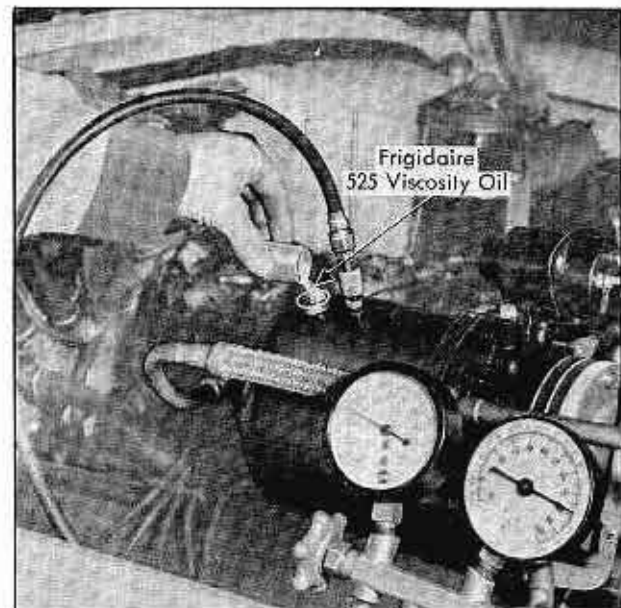

Fig. 16A-14 Adding Oil to Compressor
6. Open high pressure hand shut-off valve. Fig. 16A-12.
8. Recheck oil level as indicated in Step 4 of Note 8a above. Open low pressure shut-off valve. Fig. 16A-13.